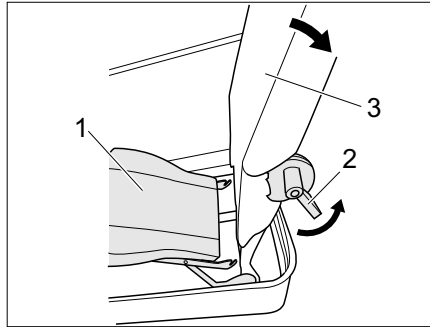
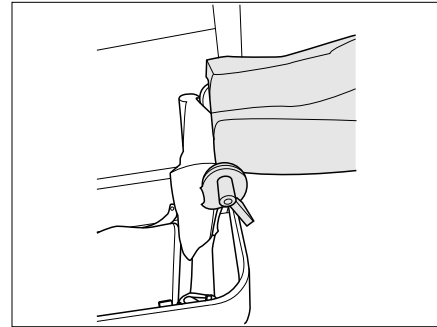

Fig. 221 Unhook the seat
Fig. 222 Turn seat back 90° to the rear
- Unlock (Fig. 221,1) the seat and move it downwards.
- Engage lever 1 (Fig. 221,2) and turn the seat back (Fig. 221,3) 90° towards the rear (Fig. 222).